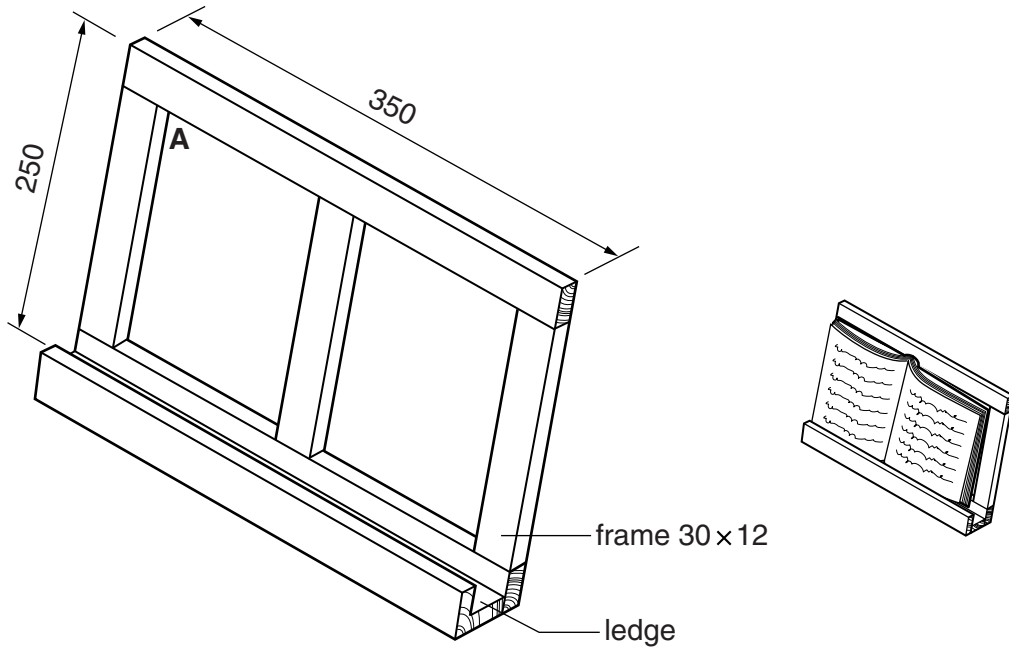

Fig. 6
- 11 Fig. 6 shows an incomplete design for a book stand made from hardwood. The book stand has two main parts: the frame and the ledge.
- (b) Sketch and name a suitable joint at **A** in Fig. 6.
Use sketches and notes to show how the ledge could be attached to the frame as shown in Fig. 6.